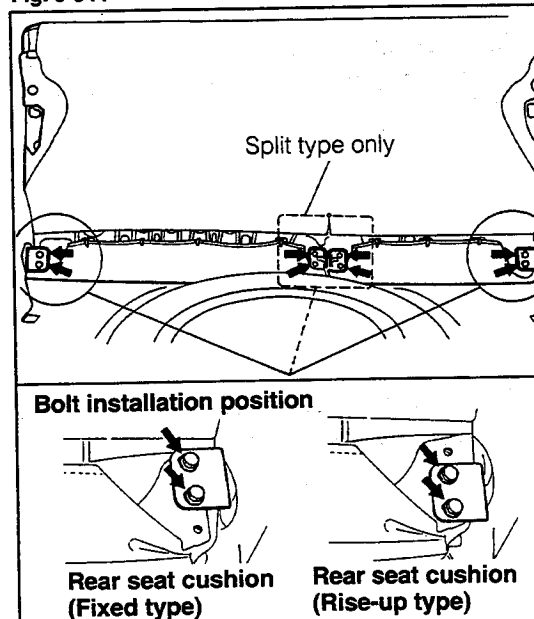

Fig. 9-345
- (3) Install the rear seatback assembly. (See Fig. 9-345.)